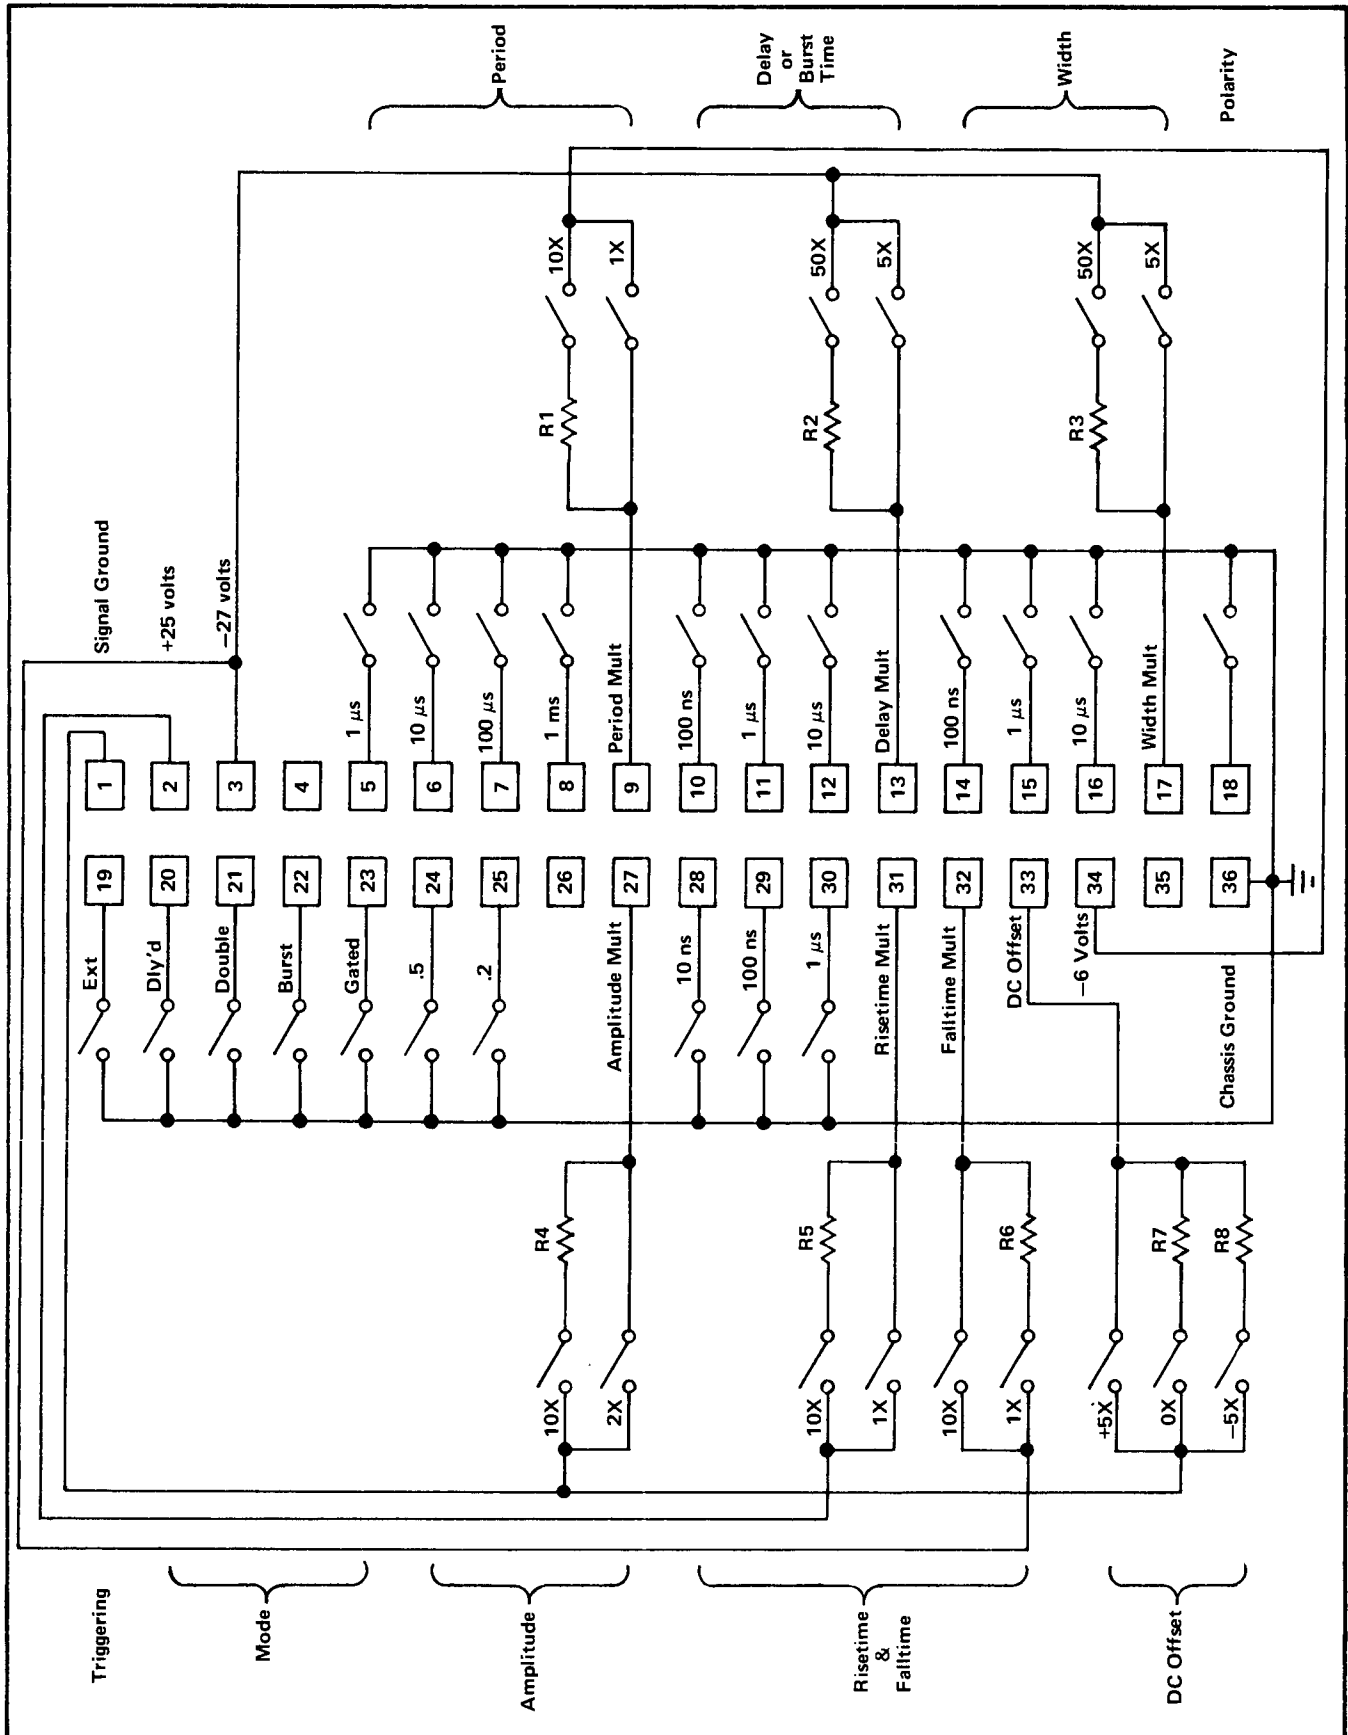

Fig. 6-2. Circuit diagram of remote programmer.
20. If the Type R116 is being checked and/or adjusted for remote operation, some means of remotely programming the instrument during this procedure is necessary. If the programming device used during normal operation is not available for use in calibration, it will be necessary to construct a programmer. Fig. 6-2 shows a schematic of a remote programmer which can be constructed in varying degrees of complexity. The resistor values shown in Table 6-1 have been obtained from the programming section of this manual. To construct this programmer the following parts are needed: